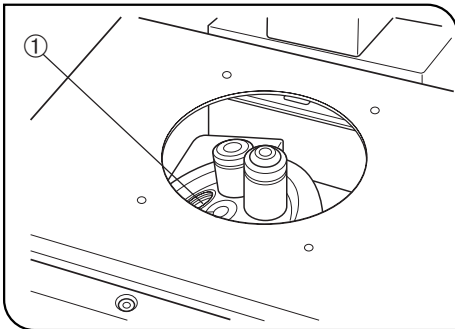

Fig. 74
(Fig. 74)
- ★ In the inverted microscope, the front lens of the objectives faces upward, and is more exposed to contamination than the objectives of upright microscopes. Therefore, if there are empty positions ① in the nosepiece, attach the dust caps provided. (Fig. 74)